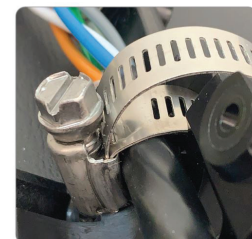

Figure 45
1. Install hose clamp without the spur bracket on any thin-walled micro cable (Figure 45).